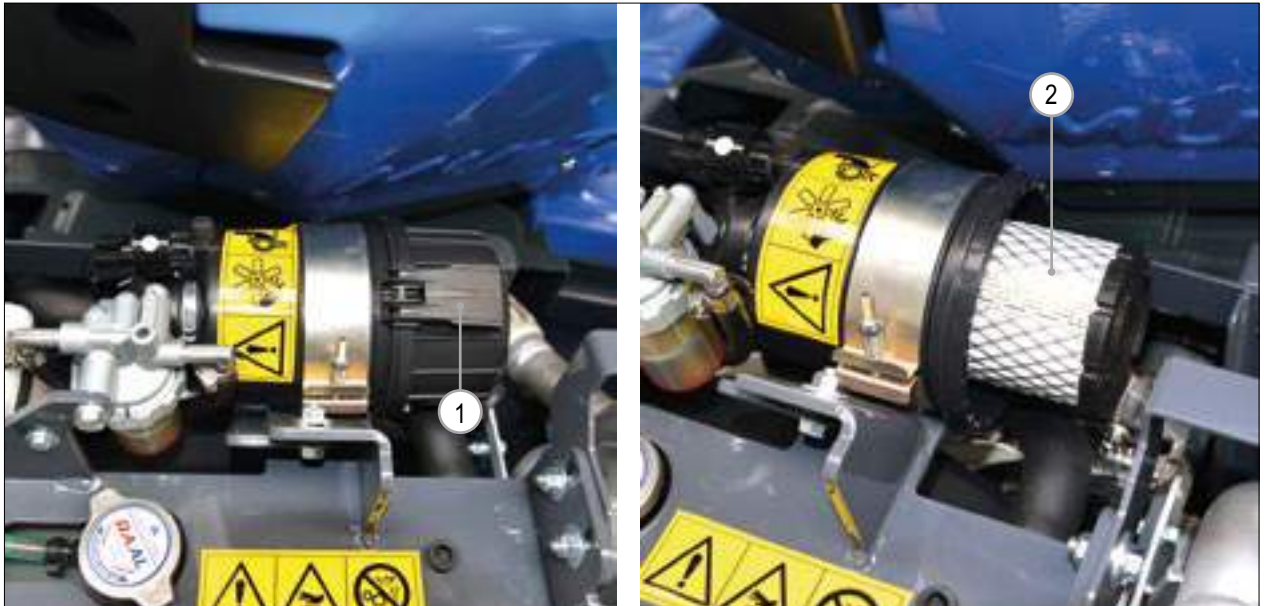

FIG. 49
- 4) Unhook the retaining clips and remove the end cap (FIG. 49 - Ref. 1).
- 5) Check the air cleaner element (FIG. 49 - Ref. 2), if cleaning is needed do it with low pressure air jets or replace with new genuine spare part.